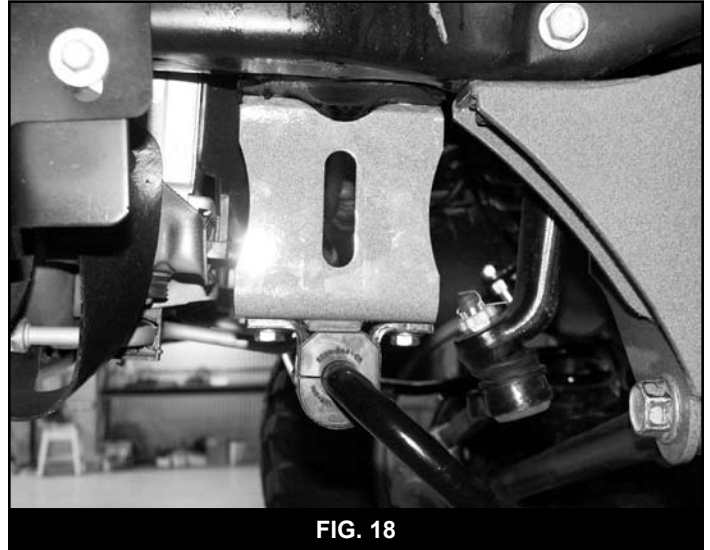

FIG. 18
44. Attach the sway bar to the new drop brackets in the correct orientation with the 3/8" hardware from bolt pack #422. Torque hardware to 30 ft-lbs (Fig 18).